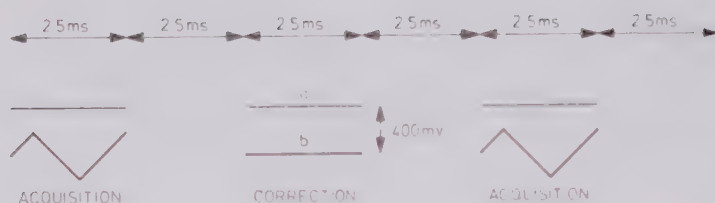

Figure 9.4 Voltage-waveform present at X3382 and X3384.
- Adjust R7939 (R8139) so that the distance between level a and b during the correction stroke in figure 9.4 is 400 mV (+ or - 20 mV).